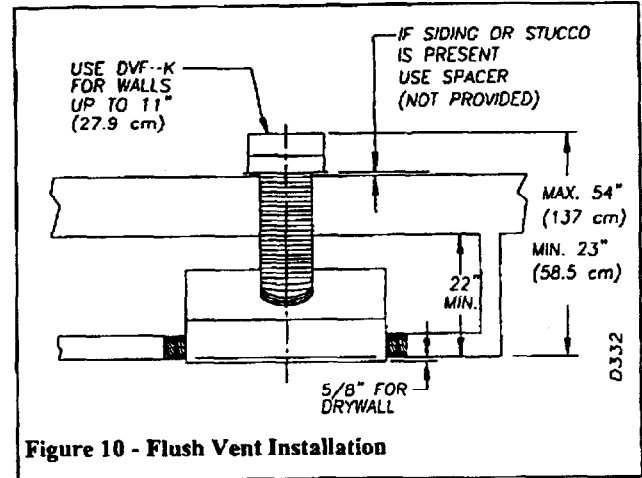

Figure 10 - Flush Vent Installation
**Projected installations** can extend a maximum of 22" into the room as shown on figure 10, page 4. A projection may be ideal for a new addition on an existing, finished wall.
Depending on the type of installation, refer to the appropriate illustration. On a flush or on a projected installation having a wall thickness of up to 11 inches, use termination DVF-K (See Figure 10).